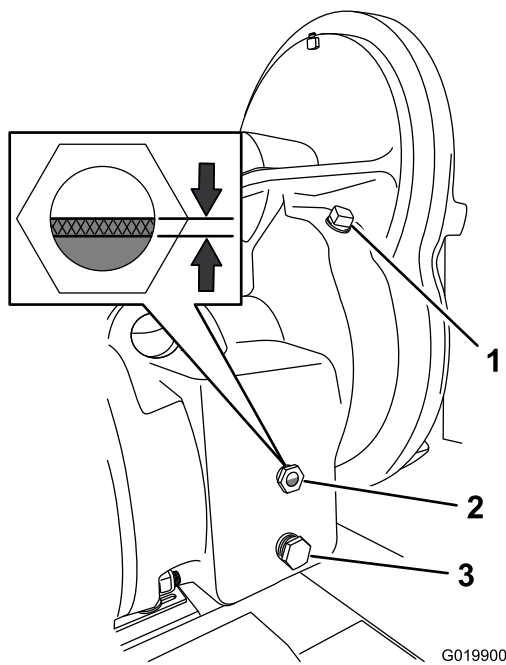

Figure 62
3. At the right side of the gear case, examine the oil level in the sight glass (Figure 62).
6. Install the drain plug in the drain port (Figure 62).
7. Slowly add the specified oil into the fill port until the oil level is between $1/3$ and $1/2$ of the sight glass (Figure 62).
8. Install the fill plug in the fill port (Figure 62).
- A. Remove the fill plug from the fill port in the housing of the gear case (Figure 62).
- B. Slowly add the specified oil into the fill port until the oil level is between $1/3$ and $1/2$ of the sight glass (Figure 62).
- E. Install the plug into the fill port in the housing (Figure 62).
2. Align a drain pan with a 3-quart capacity under the drain plug (Figure 62).
3. Remove the drain plug from the drain port, and completely drain the gear-case oil (Figure 62).
4. Remove the fill plug (Figure 62).